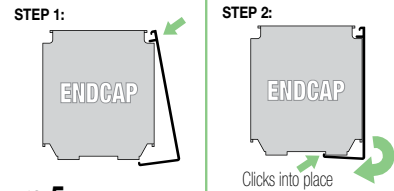

Figure 5
1. Place groove along top of fascia over endcaps, and snap into place (Fig. 5).